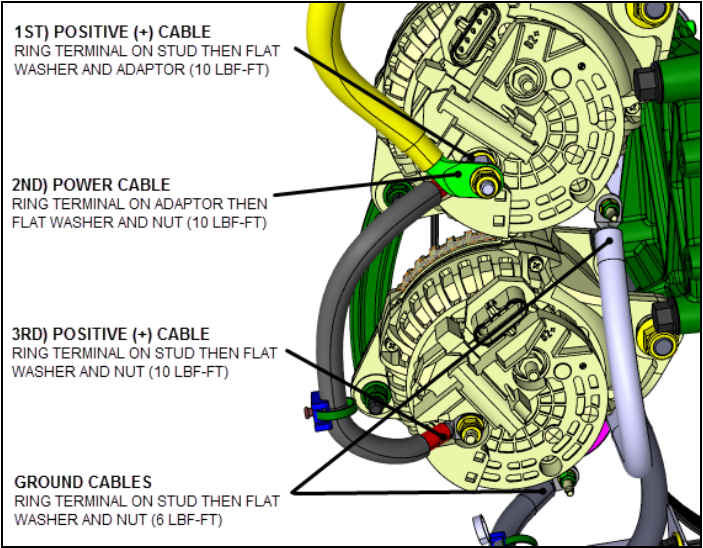

FIGURE 7
11. Cable connection overview. Upper and lower alternator (figure 7).
- a) Fit jumper cable (a.k.a. positive cable) onto **B1+** stud terminal on lower alternator (figures 7 & 10).